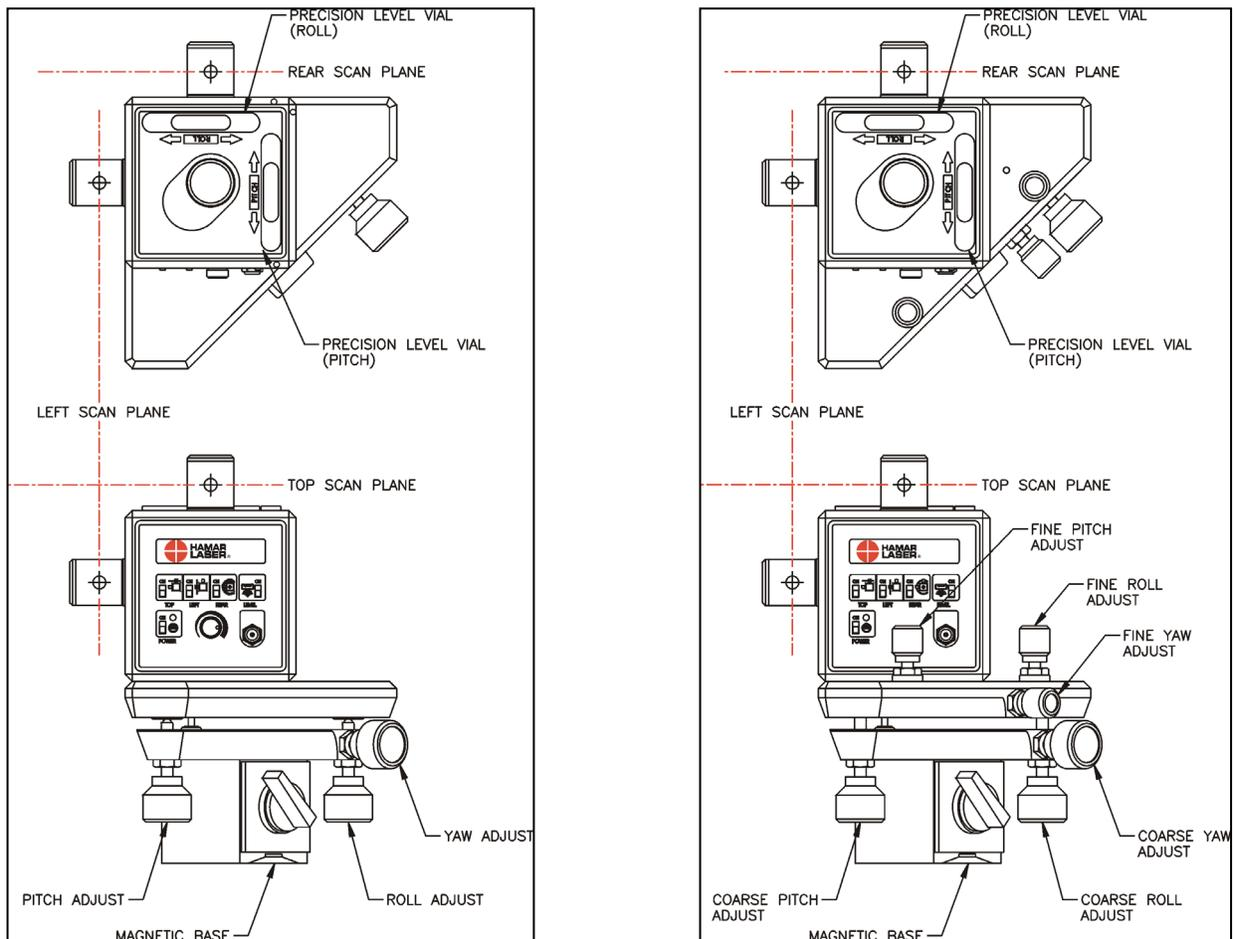

Figure 1 – L-733 Laser (left) and L-743 Laser (right) top and side views
- **Accuracy:** the L-743 and L-742 are four times more accurate for flatness and two times more accurate for squareness than the L-733 and L-732. The L-733 and L-732 have a pitch/roll/yaw base with medium adjustments and the L-743 and L-742 have a pitch/roll/yaw base with both coarse and fine adjustments (see Figure 1).